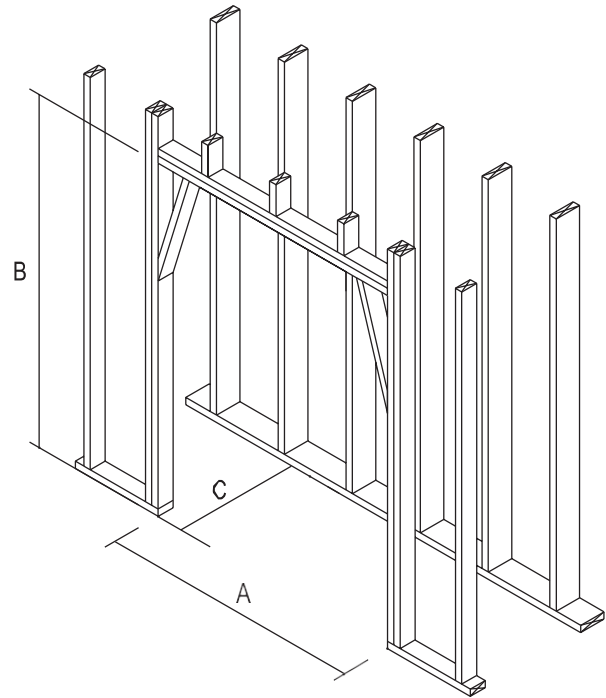

FIGURE 12
5. Rough framing dimension for depth "C" allows for the required 1 1/2" clearance at the back of the Fireplace. 26 3/4" is only for an interior wall as most exterior wall framing have insulation, even if the wall is 2x6, the foam they spray expands so typically 31" is allowed on an exterior wall (**Figure 12**).
The following chart of dimensions detail the positioning of a STANDARD Series fireplace in a corner. It also details the positioning of DM chimney where it must turn 45° degrees if alignment is needed to overhead framing. (**Figure 12 & 13**)